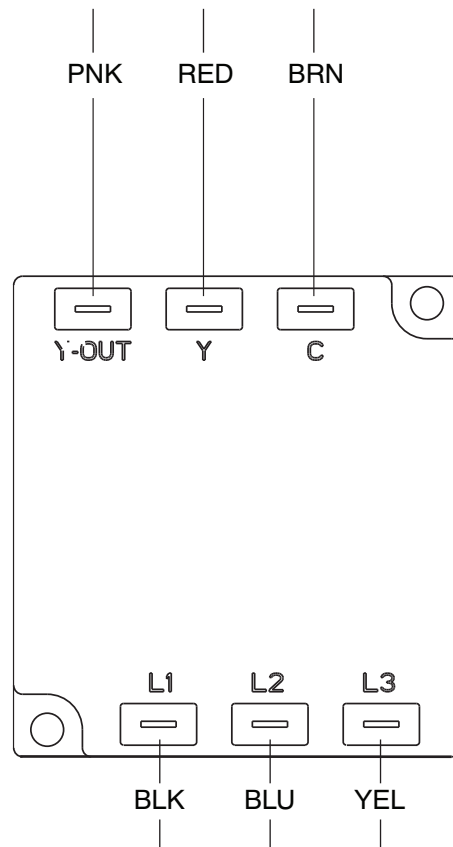

Fig. 4 - Phase Monitor Module Detail (575V)
b. **For 575V** - Route the wiring harness along the top of the control box connecting the pink wire to the “Y-OUT” spade connector, the red wire to the “Y” spade, and the brown wire to the “C” spade of the phase monitor module. (See Fig. 4.)